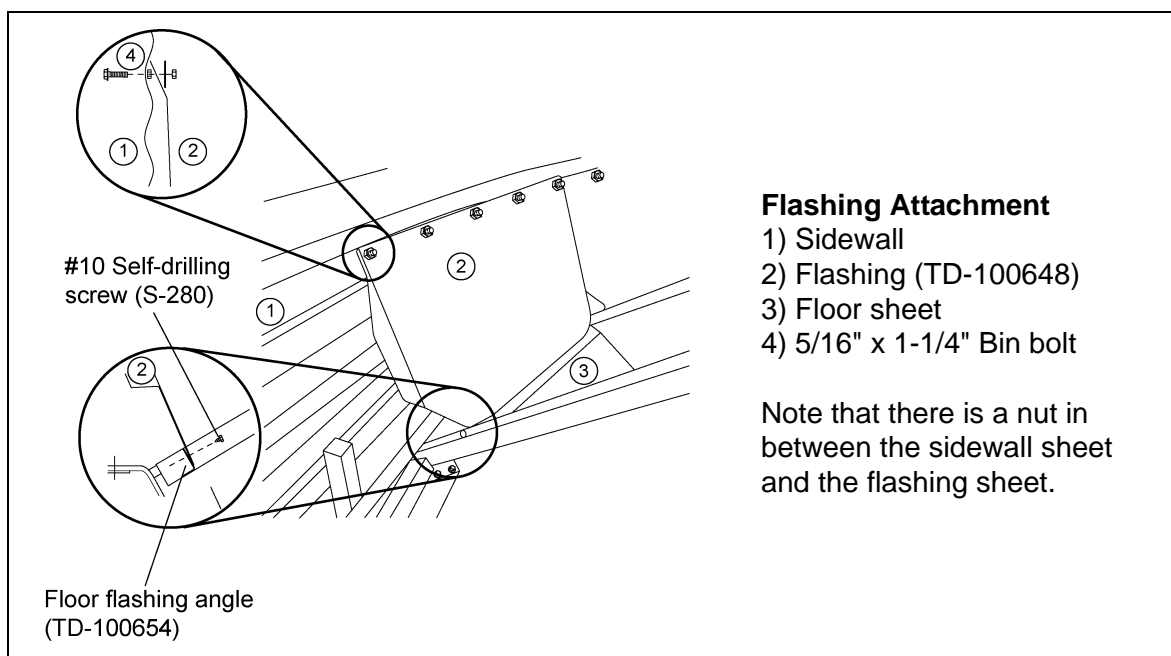
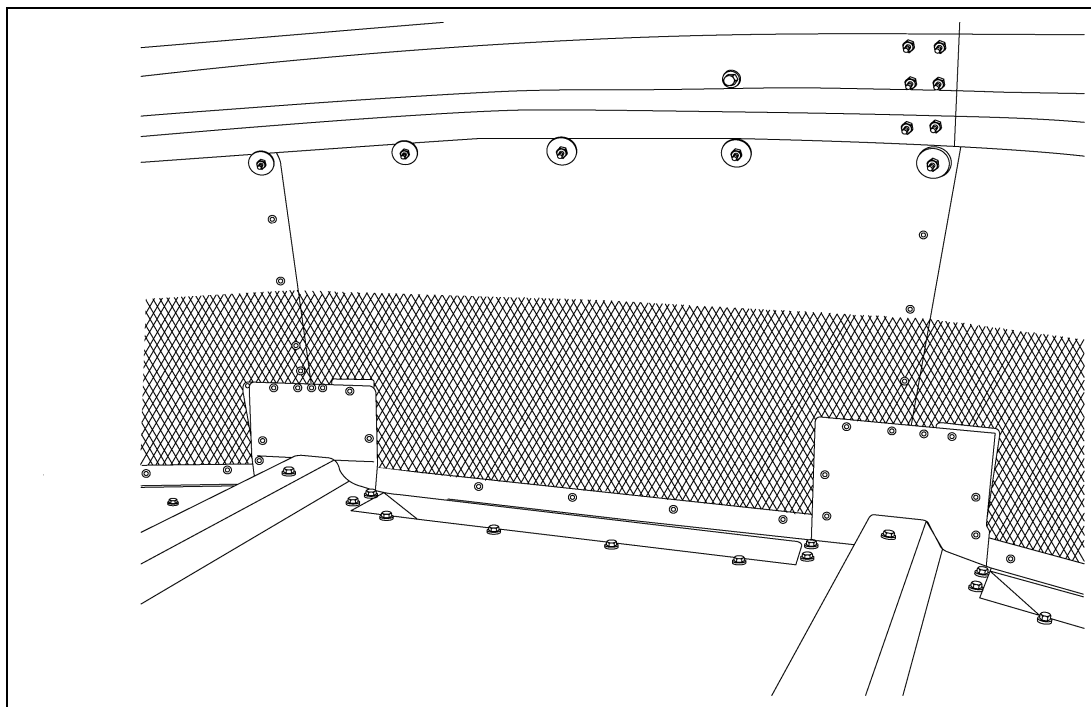

Figure 8K
Figure 8L
Install the eave flashing centered on the floor sheet (one per) with the bent edge towards the sidewall install a fender washer (S-3671) and nut. Screw the flashing to the flashing angle at the dump hopper opening with five (5) #10 self-drilling (S-280) screws and screw the flashing pieces together where they overlap with three (3) #10 self-drilling (S-280) screws. (See Figure 8K below and Figure 8L on Page 47.)